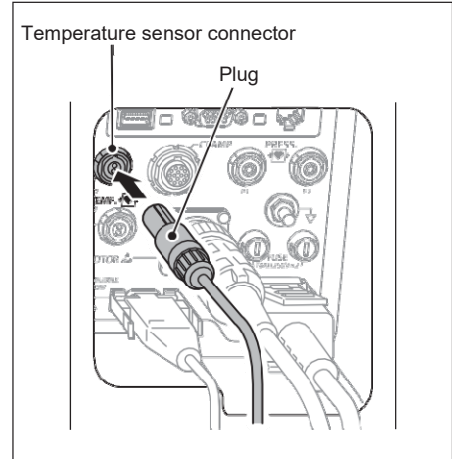

Figure 1-15
1. **Align the plug of the temperature sensor with the slot of the temperature sensor connector on the rear panel, and insert the plug into the connector (T1 or T2). (Figure 1-15)**